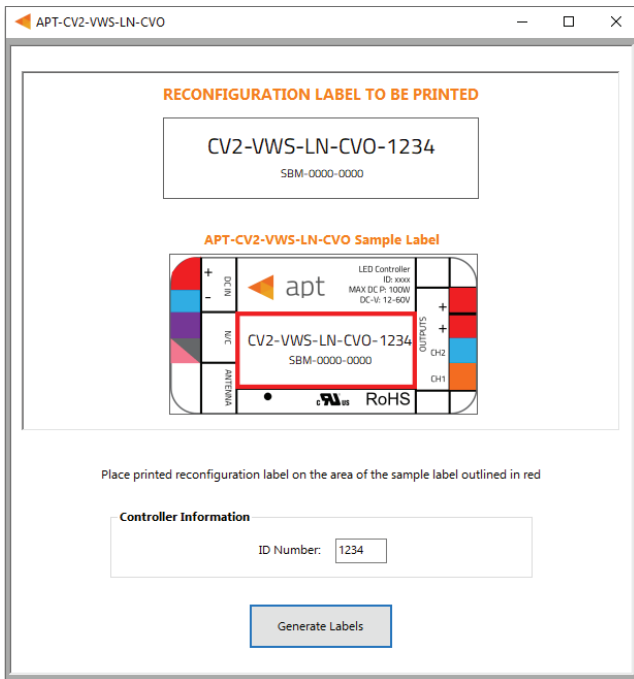

Figure 13: Label Generation window
- 1 Select **File > Generate Report**, or press **Ctrl+R**, to open the Report Generation Window (shown in Figure 13).